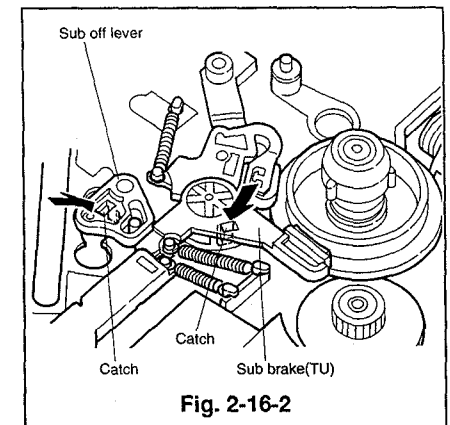

Fig. 2-16-2
- ① Remove the cassette housing. (Refer to Para. 2-1 for the removal method.)
- ② Remove the sub brake (SP) and the sub spring (SP). (Refer to Para. 2-14 for the removal method.)
- ③ Unfasten the catch with a small screw driver, etc., and raise the sub off lever upward to remove it. (Refer to Fig. 2-16-2)
- ⑤ Unfasten the catch with a small screw driver, etc., and raise the sub brake (TU) upward to remove it as shown in Fig. 2-16-2.